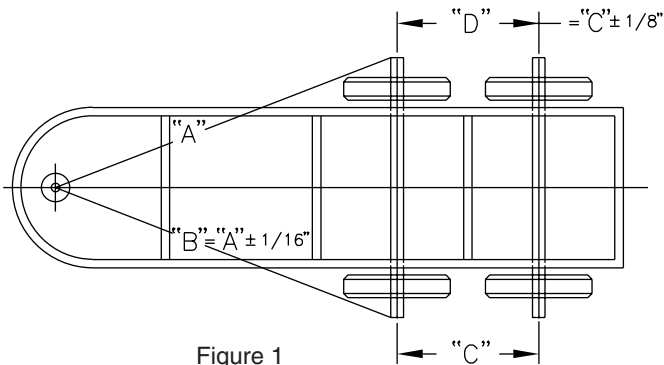

Figure 1
2. Measure from king pin to spindle center on each side. To simplify this process, plumb lines may be dropped from the king pin and from the center line of each spindle end. Measurements "A" and "B" can then be taped on the floor to eliminate any miss measurement due to sagging of the tape for long measurements. Compare A and B measurements (see Figure 1).